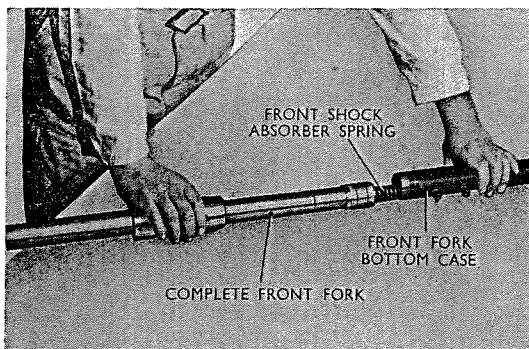

Fig. 4.21 Assembling of front cushion
3. Put the front cushion spring with the shorter pitch in the bottom case and insert the front fork pipe (complete). Tighten the front fork seal housing. (Refer to Fig. 4.21)
4. After the coupling of the front cushion is finished, insert it in the designated position of the steering stem together with the front fork lower cover. Tighten by the 8×32 hex bolt. (Refer to Fig. 4.21)